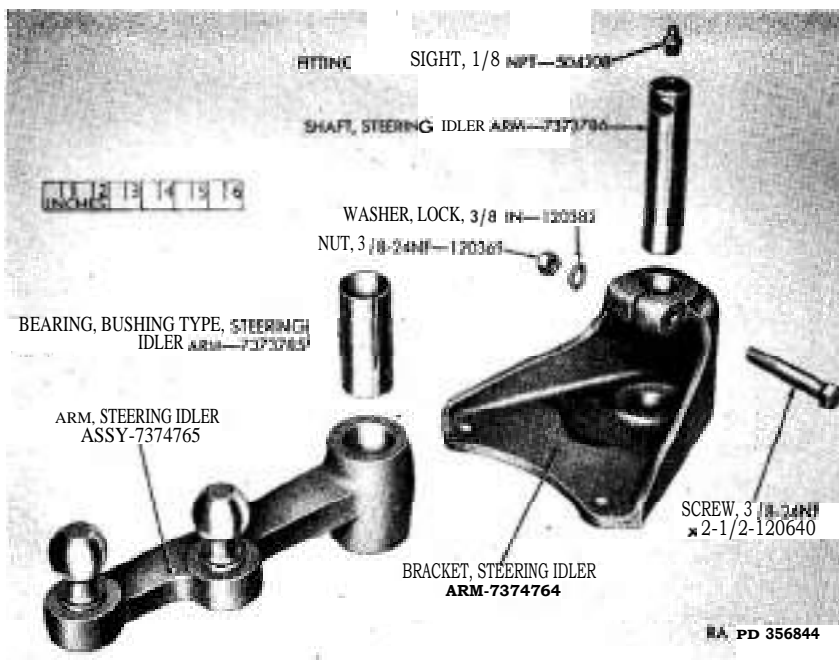

Figure 171. Steering idler arm assembly and steering idler arm bracket with related parts.
b. *Remove Lubricating Fitting, Steering Idler Arm Assembly, and Steering Idler Arm Shaft from Steering Idler Arm Bracket (fig. 171) .*
- (1) Remove lubricating fitting from steering idler arm shaft.
- (2) Remove nut and lock washer from screw which clamps the steering idler arm bracket around steering idler arm shaft. Remove screw from bracket.
a. *Inspect Steering Idler Arm Assembly (fig. 171) .*
- (1) Measure inside diameter of steering idler arm bushing-type bearing with an inside micrometer. If dimension exceeds wear limit indicated in paragraph 349, replace bearing (pars. 187 and 189).
- (2) Measure diameter of balls on steering idler arm with a micrometer. If dimension is less than the wear limit in paragraph 349, replace idler arm assembly.
- (3) Inspect idler arm for cracks and damage. If either condition exists, replace idler arm.
b. Inspect Steering Idler Arm Bracket (fig. 171) .
- (1) Measure steering idler arm shaft openings in steering idler arm bracket with an inside micrometer. If diameter of openings exceeds the wear limits in paragraph 349, replace bracket.
- (2) Inspect bracket for cracks or damage. If either condition exists, replace bracket.
c. Inspect Steering Idler Arm Shaft, Screw, Nut, and Lubricating Fitting (fig. 171) .
- (1) Measure diameter of steering idler arm shaft with a
b. *Assemble Parts in Steering Idler Arm Bracket (fig. 171).*
- (1) Lubricate steering idler arm bushing-type bearing with general purpose lubricant (GO) and position steering idler arm assembly in bracket. Install steering idler arm shaft in bracket and through bearing in idler arm. Make certain that groove in shaft is in proper alignment with screw hole.
- (2) Install ~~3/8-24NF~~ x 2 1/2 screw in bracket and make certain it engages with the groove in steering idler arm shaft. Install 1/2-inch lock washer and ~~3/8-24NF~~ nut. Tighten nut.
- (3) Install ~~1/2NPT~~, straight, lubricating fitting in shaft.
- (4) Lubricate steering idler arm bushing-type bearing and steering idler arm shaft with general purpose grease (GAA).